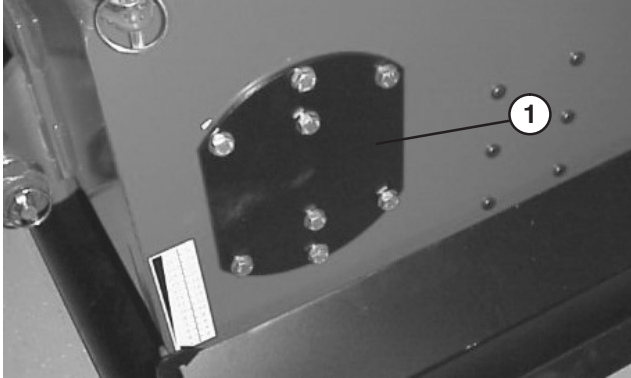

Figure 34
7. To ensure components are re-installed correctly, mark location of end cover on aerator frame (Fig. 34)
8. Remove (8) capscrews and flat washers securing end cover and bearing housing to end of aerator frame (Fig. 34).